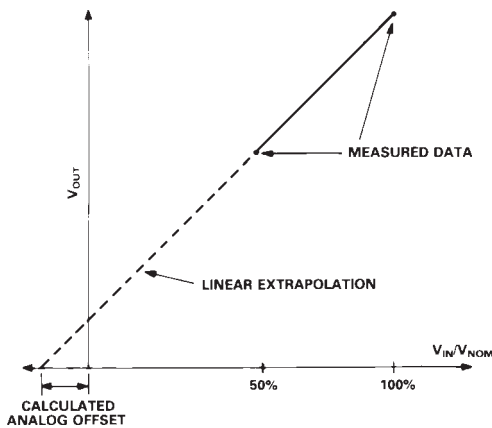

Figure 1. Derivation of Analog Offset Voltage
**ANALOG OFFSET ERROR:** The analog offset is defined as the offset of the analog amplifier channel, referred to the analog input. Ideally, this would be measured with the analog input at 0 V and the digital input at full scale. Since a 0 V analog input voltage constitutes an undervoltage condition, this specification is determined through linear extrapolation, as indicated in Figure 1.